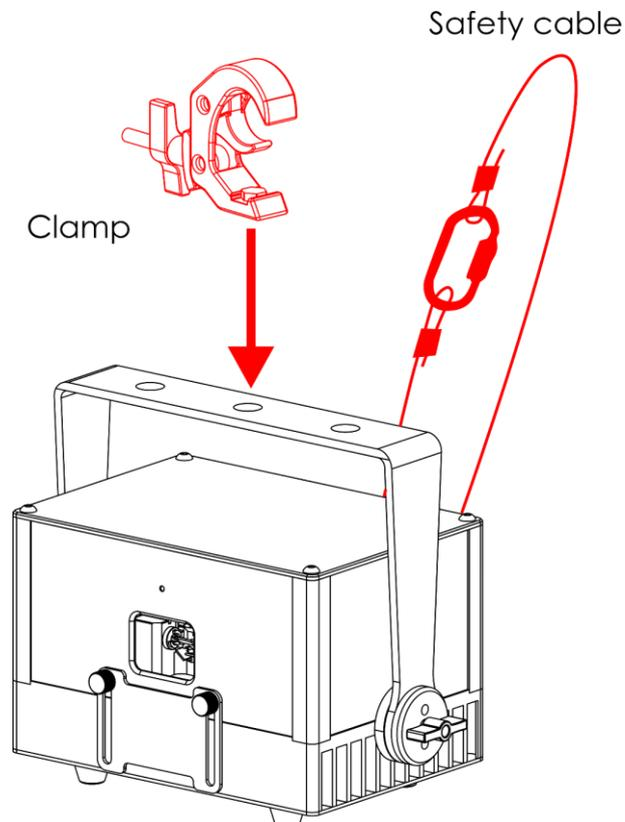

Fig. 11
- 01) Use a clamp to attach the device to the supporting structure, as shown in Fig. 11. Make sure that the device cannot move freely.
- 02) Secure the device with a secondary suspension, for example a safety cable. Make sure that the secondary suspension can hold 10 times the weight of the device. If possible, the secondary suspension should be attached to a supporting structure independent of the primary suspension. Put the safety cable through the **safety eye (20)**, as shown in Fig. 11.